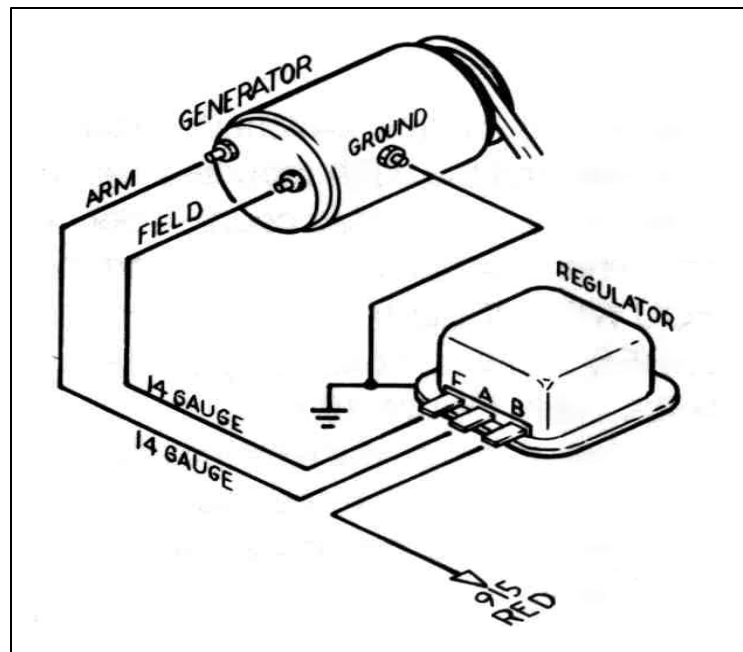

Figure 7-1 Generator Charging System
7.1 Generator Charging System. See Figure 7-1.